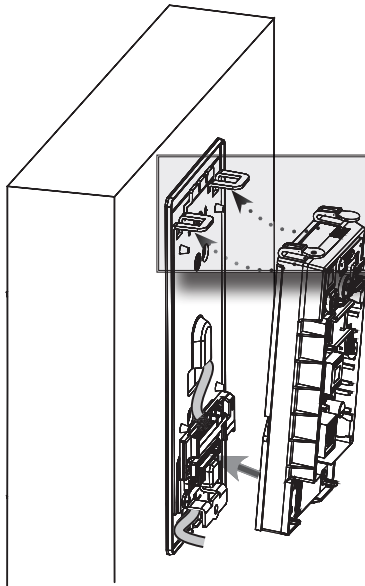
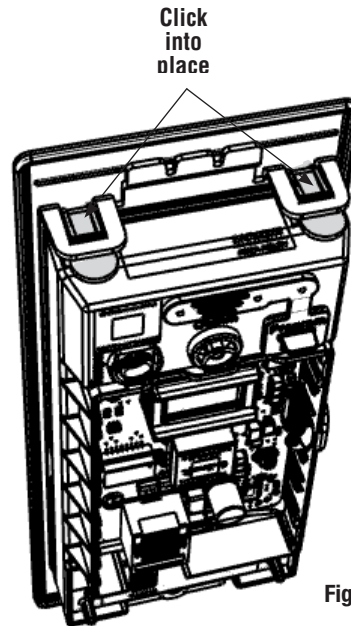

Fig. 12d
Fig. 12e
- Insert bottom tab of controller (ensure a clear path) into slot on mounting plate (Fig. 12d, e).
- Ensure proper alignment of board-to-board connectors (Fig. 12e) while pivoting controller toward door until two tabs on top click securely into place on mounting plate (Fig. 12d).